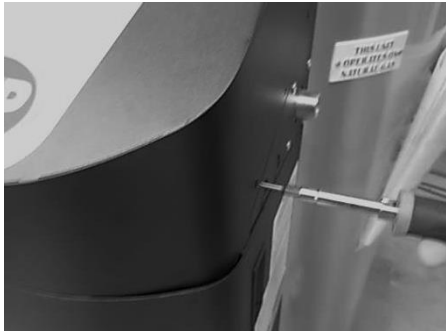

Figure 12 – Top Cover
1. Remove the eight (8) screws from the top cover of the water heater cabinet. Two (2) of these screws are located on the top of the cover. Three (3) screws are located on either side. See Figure 12.
10. Reinstall the top cover of the water heater cabinet using the eight (8) screws removed in Step 1. Two (2) of these screws are located on the top of the cover. Three (3) screws are located on either side. See Figure 12.